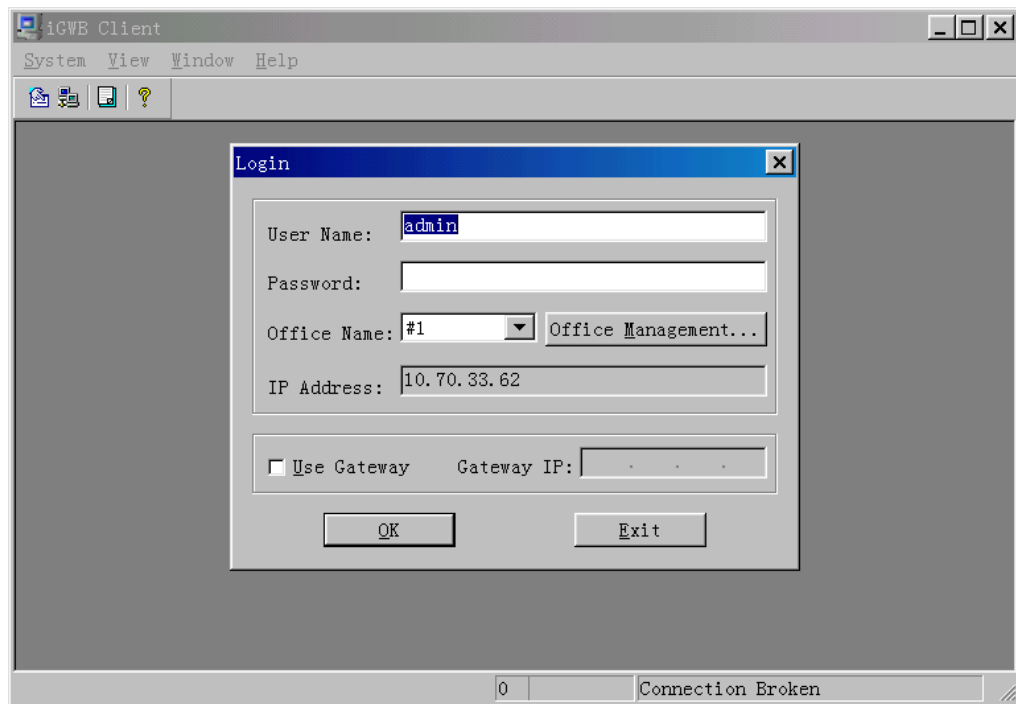

Figure 3-2 [login] dialog box
- 1) Select [Start/Programs/iGateway Bill V200 Client/iGWB Client] to start the CDR console. The [Login] dialog box is displayed, as shown in Figure 3-2.
When starting the client for the first time, be sure to configure the IP address of the server at the client. Otherwise, the client does not know which office it is connected to. Therefore, when you select [Start/Programs/iGateway Bill V200 Client/iGWB Client] to start the main interface of the CDR console and the [Login] dialog box is displayed as shown in Figure 3-2, you should click <Office Management> in the [Login] dialog box and add an office in the [Office Management] dialog box before login.